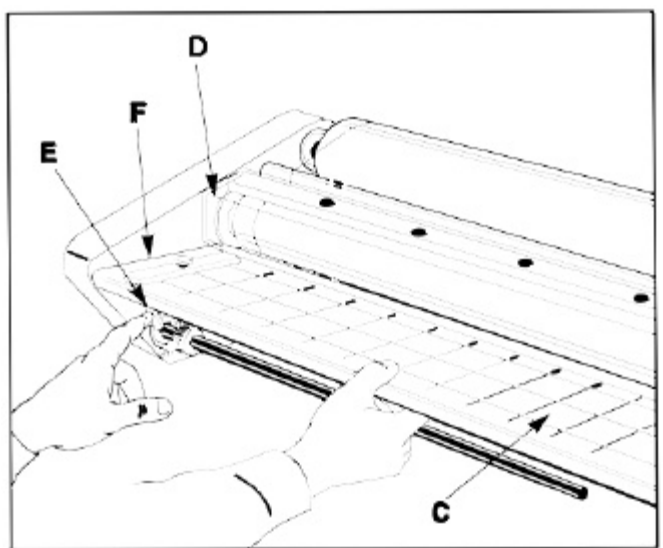

Fig. 3
C. FEED TABLE: The Feed Table, Figure 3, is used to position items for lamination. **The laminator will operate only when the Feed Table and Feed Table**
F. FEED GUIDE: The Feed Guide, Figure 3, permits alignment of the item(s) to be laminated. To position the adjustable guide, loosen the knob on the top of the guide, slide it to the desired position and tighten the knob to secure the Feed Guide in place. The Feed Guide is used to keep longer items straight. The Feed Guide may also be used to feed smaller items side by side by positioning the guide towards the center of the Feed Table and placing smaller items against each side of the Feed Guide as they are being introduced into the nip point of the heat rollers.